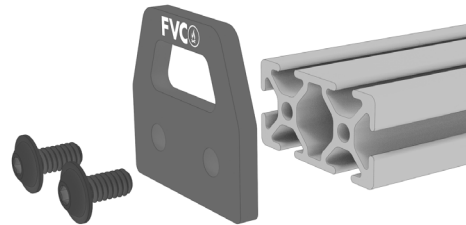

FIG 6
3.1 Attach End Caps to Crossbars: Find the **Crossbar End Caps** and attach to your **Crossbar** using (2ea) 1/4-20 x 0.75 **Flanged Button Head Hex Drive Screws** and **Loctite** (FIG 6).